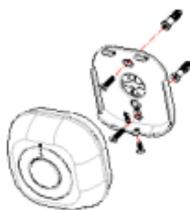
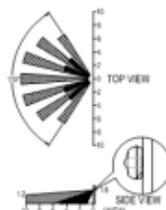
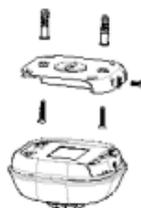
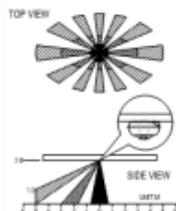

FIGURE 4a
FIGURE 4b
FIGURE 5A
FIGURE 5b
4. Decide if the detector is to be wall-mounted (FIGURE 4a) or ceiling-mounted (FIGURE 5a), based on the coverage angles shown in FIGURE 4b and FIGURE 5b. Hold the rear cover in position and mark the two mounting holes. Drill the holes, insert the plastic wall plugs and screw the rear cover to the wall or ceiling using the screws provided.
the optimum detection range is up to 10m (32.81 ft) with coverage range of 110 degrees (FIGURE 4b).
The recommended position for ceiling mounting is at a height of 2.8m (9.19ft) from the floor. At this height, the optimum detection range is up to 5m (16.41ft) with coverage range of 360 degrees (FIGURE 5b).